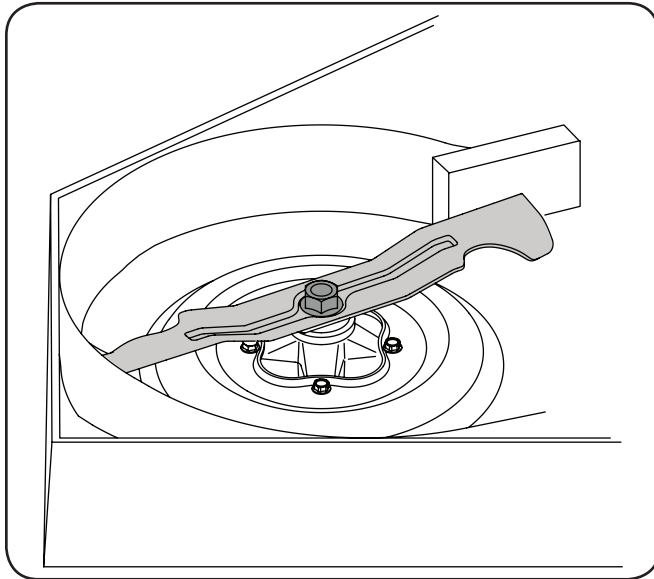

Figure 7-6
3. Wrap a rag around one end of the blade and grasp it to prevent it from turning, or secure the blade by placing a block of wood between the blade and the deck housing. See Figure 7-6.